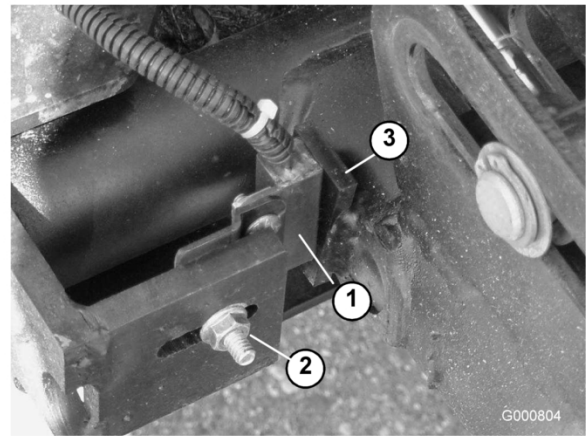

Figure 77
- Loosen the carriage bolt nut securing the lift arm switch bracket to the #4, 6 or 7 lift arms (Figure 77). #4 shown in figure.